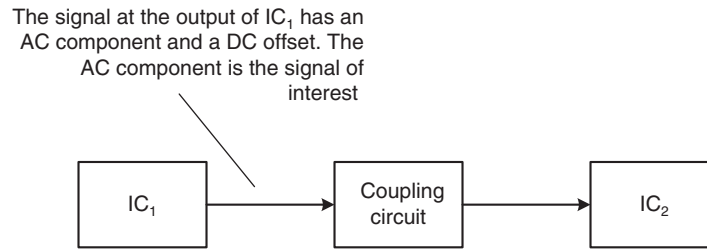

Figure 1.2. Coupling circuit.
A common application for resistive circuits is the coupling circuit of Figure 1.2 that conditions a signal from integrated component IC_1 and feeds it to integrated component IC_2 . The signal of interest, or the signal that carries useful information, is an alternating current (AC) signal with no DC component. However, DC offsets play an important role in this application because they keep the input and output signals within the working range of the amplifiers.